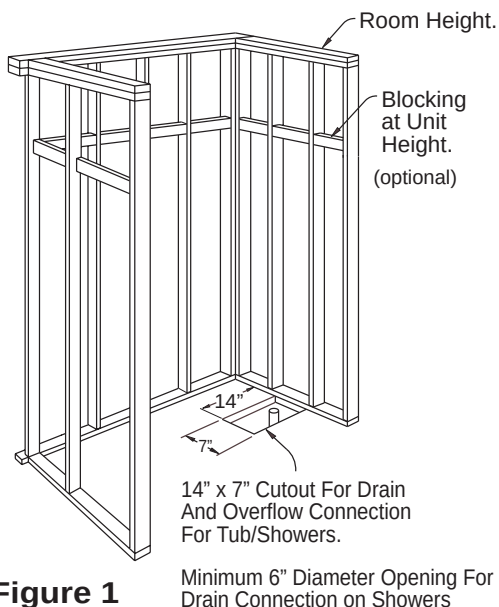

Figure 1
2. Review **Figures 1, 2 and 3** to make sure alcove is the proper size. If a fire rated alcove is required, adjust framing size to compensate for approved finish materials. Fire rated materials must be installed prior to unit installation.